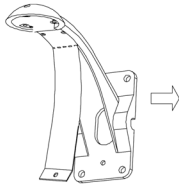

Figure 5
- 2) Take out the cover of the wall-installed bracket. (Figure5).